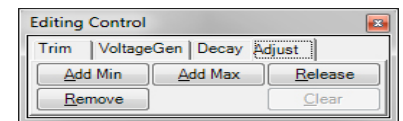
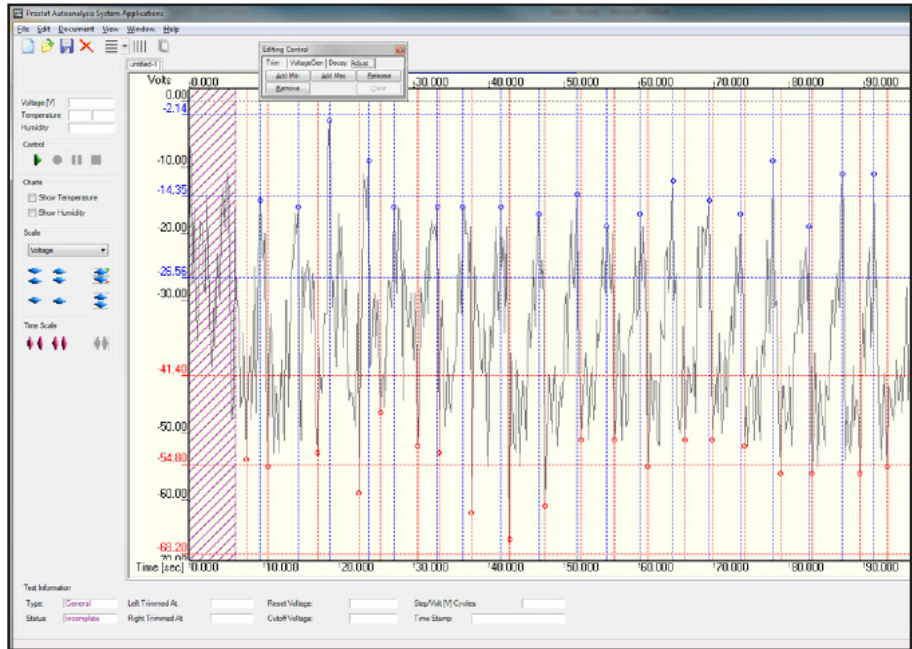

Figure 33: Click Adjust then Release to begin the Autoanalysis
Figure 34: Releasing Data and Process the 3-Sigma Analysis for Minimum & Maximum peak sets
6. Press the **Adjust** tab in the **Editing Control** window as shown in Figure 33. This allows you to add or remove Min or Max peaks from the analysis.
7. Once peaks for each walking step are identified **Release** the data (Figure 33) for analysis and report preparation. Once the data is released, 3 Sigma data (Figures 34 & 35) are calculated, displayed and a report can be generated.